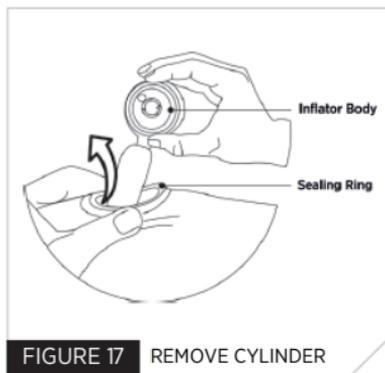

FIGURE 17 REMOVE CYLINDER
5. Squeeze the sealing ring to elongate and remove the inflator body and cylinder through the sealing ring (Fig. 17).